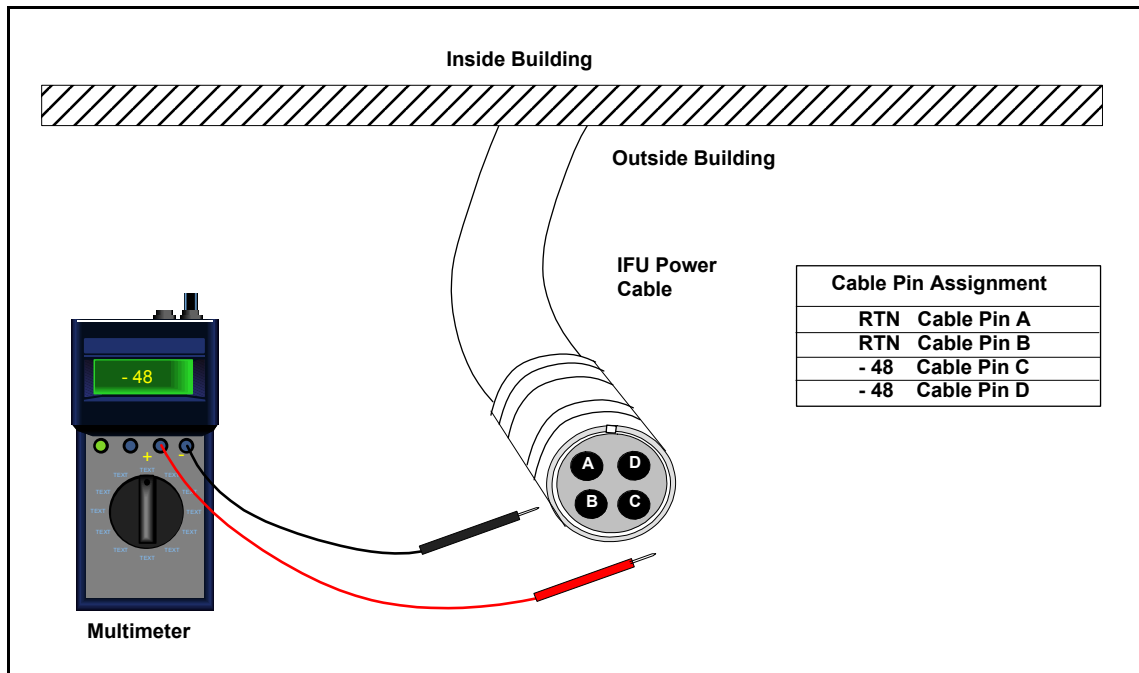

Figure 3-5. Power Test Setup
- 3 At the mounting location, connect a black test lead from the **negative** input of the multimeter to pin **B** on the power cable (see Figure 3-5).